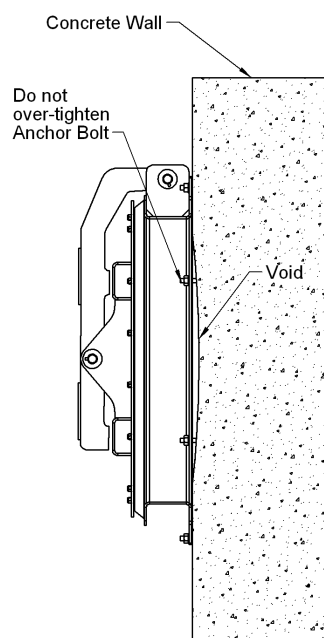

Figure 5
**CAUTION!:** If the flap gate is not completely in contact with the wall, do not over-tighten the anchor bolts. Over tightening may bend or distort the frame. If the wall flatness and levelness is according to the specified standards, the construction sealant will fill in the remaining void (see Figure 5).